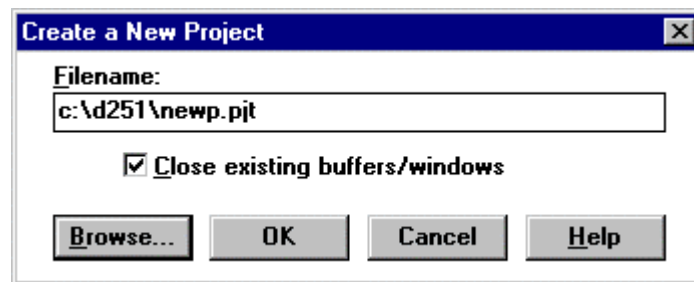

Figure 3 Create a New Project Window
1. Open the Project menu and select the New... menu item. The dialog shown in Figure 3 appears.
3. For this tutorial, choose the name `newp.pjt` and press **OK** to close the dialog. When you close this dialog, you again see the dialog in Figure 3.
4. Press **OK** again to close the dialog from Figure 3.